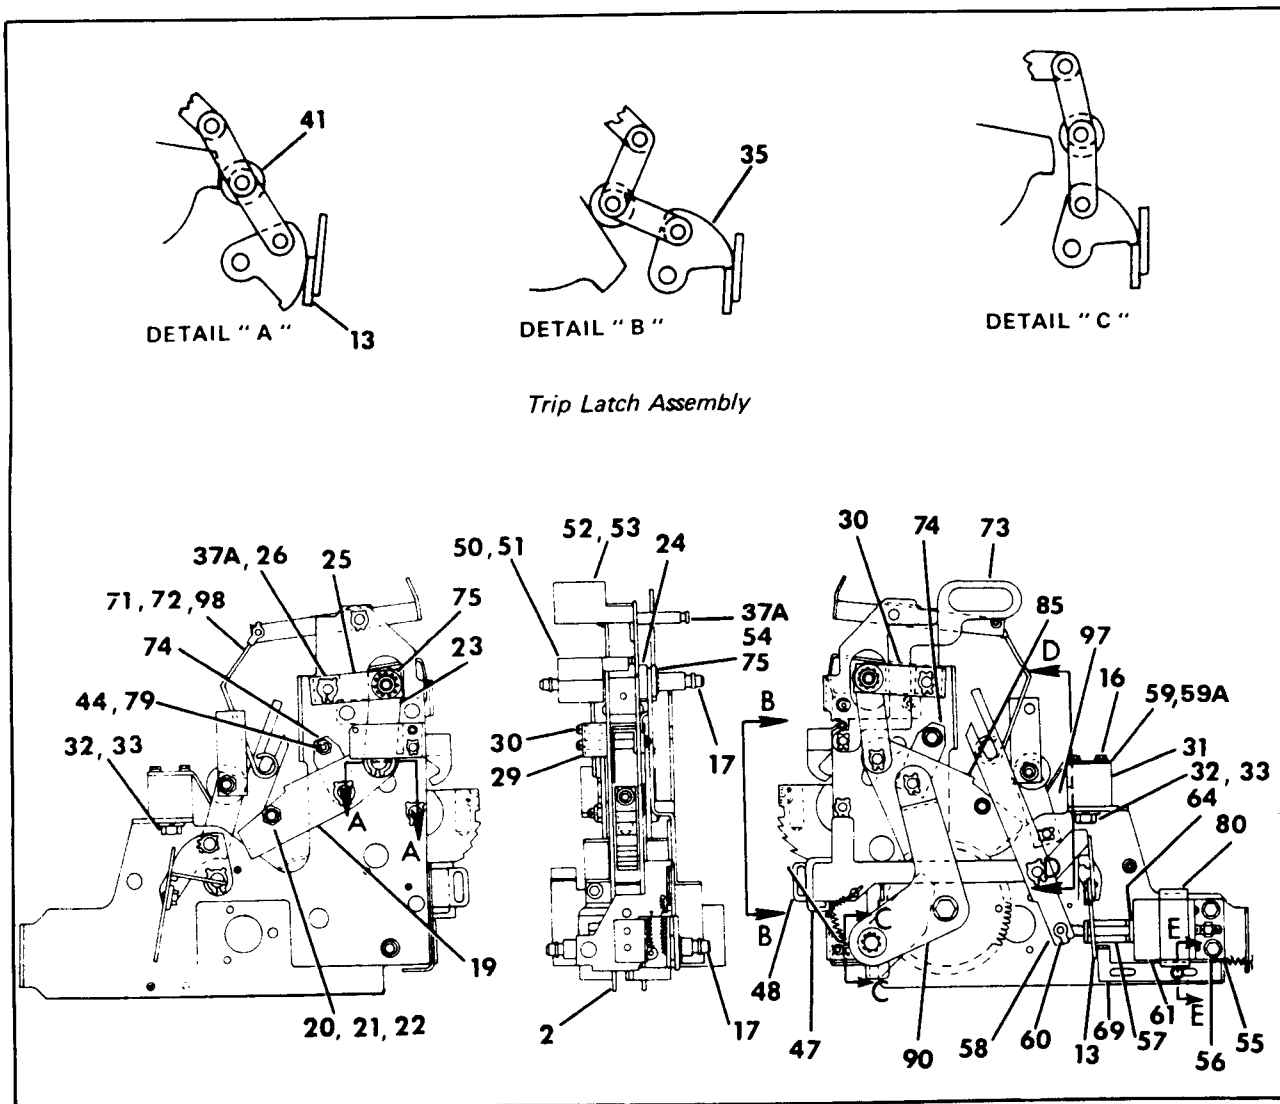

Figure 7. Typical Operator Assembly
Toggle latch (35) should engage the full width of trip latch (13) when the circuit breaker is closed in the normal manner. The tension on spring (15) can be increased if required by bending spring tab on trip flap towards the front of the circuit breaker. Too much tension will interfere with the capability of the tripping actuator to move the trip flap, so overbending should be avoided. (See Figure 7.)
The springs have reached charged position. The motor/gear lever (2) has been retracted by roll pins on the large gear as the cam follower (95, Figure 7) on the large spur gear has disengaged from the wind and close cam (85). The motor cutoff switch (3) has opened, stopping the motor, and the closing coil switch (4) has closed. Upon application of power to the closing circuit the breaker will close. Switches then return to No. 1 position.
If the motor cutoff switch (3) does not open, the motor will continue to run and the cam follower (233) will re-engage wind and close cam (85, Figure 7) jamming the entire mechanism, possibly stripping gears in the gear motor, blowing the control fuse, or damaging the motor. To free a jammed mechanism it is necessary to remove the gear motor.